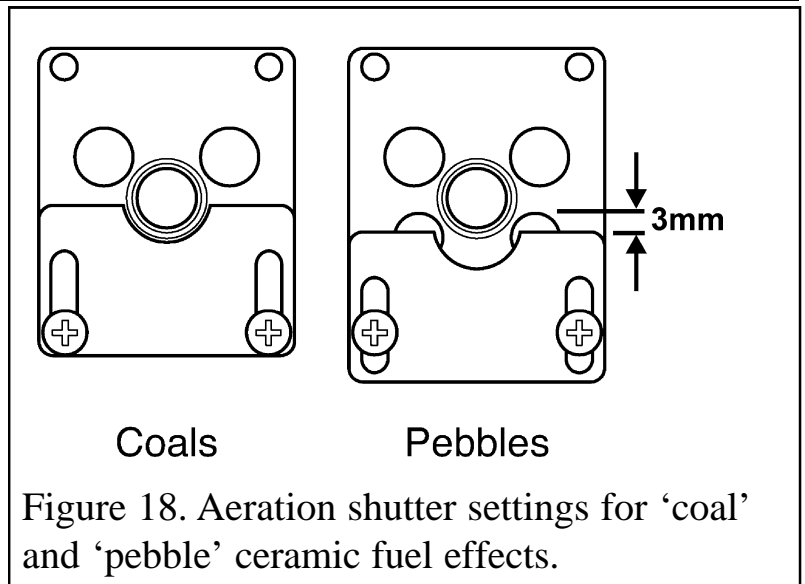

Figure 18. Aeration shutter settings for 'coal' and 'pebble' ceramic fuel effects.
**1.** The aeration shutter is factory set for use with a ‘pebble’ ceramic fuel effect. It is important to ensure that the aeration setting is correct for the ceramic fuel effect used. Check the aeration shutter setting even if fitting the ‘pebble’ fuel effect. (See figure 18).